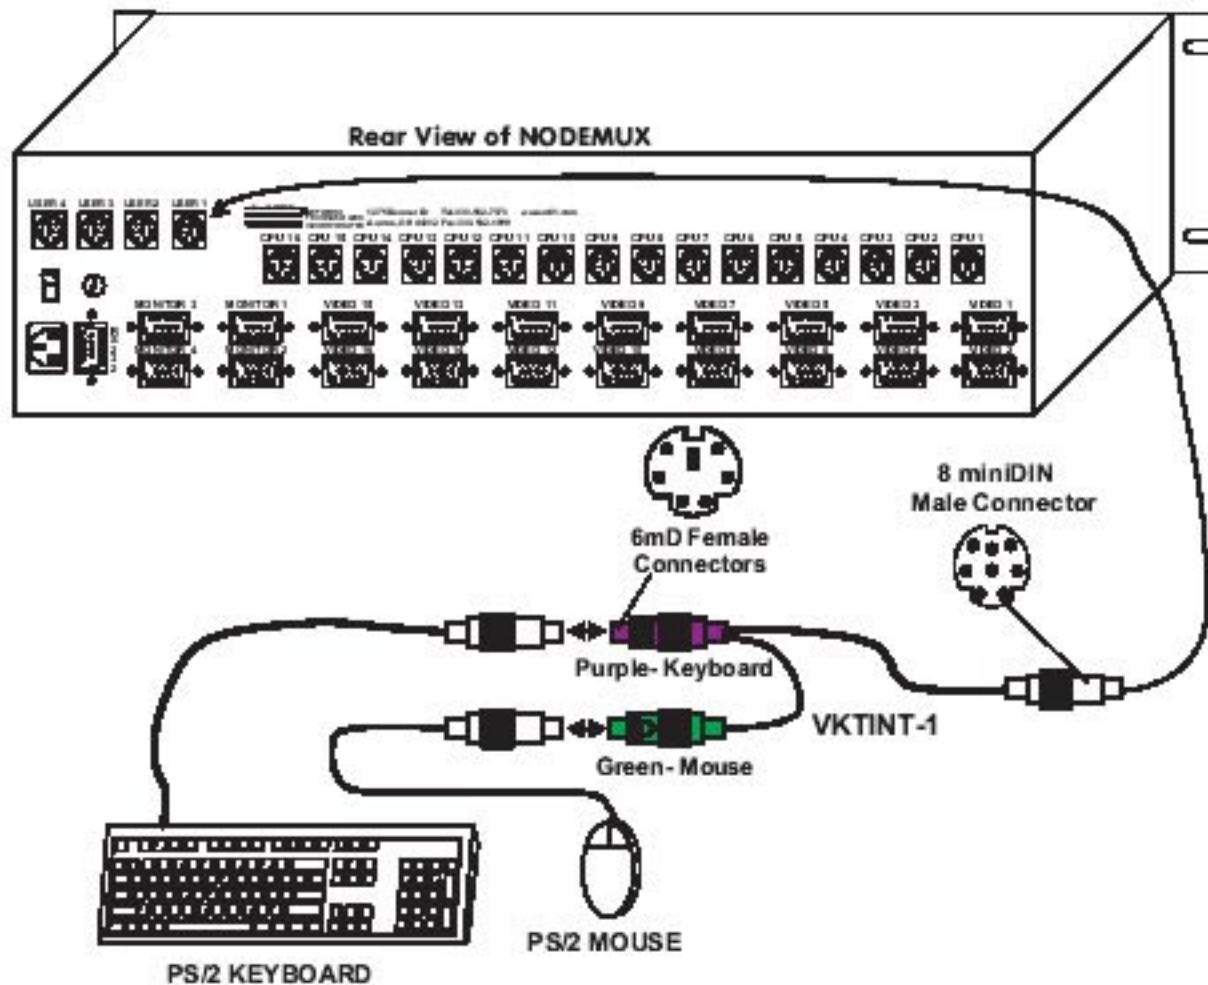

Figure 2- Connect PS/2 devices to NODEMUX
2. Connect the keyboards to the ports labeled 'USER x' on the rear of the NTI Switch. (See Fig. 2 on page 6) Use the proper interface cables. (See also Cable Selection Guide on page 9.) Insure that the monitors and related keyboards have the same port numbers.